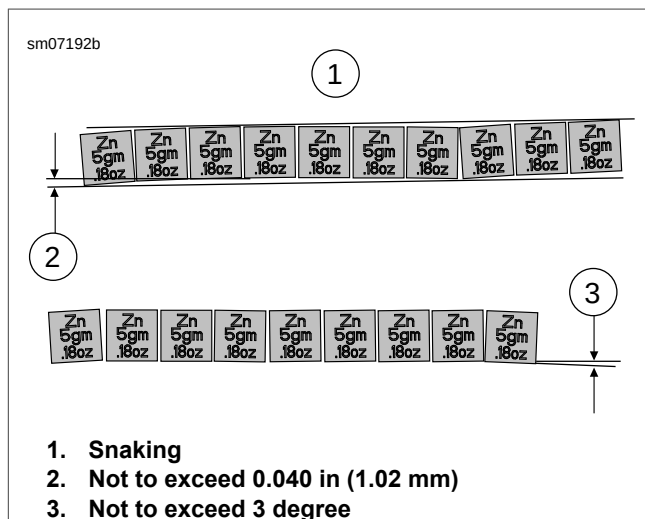

Figure 2-37. Weight Segment Alignment
See Figure 2-37. When installing wheel weights, consider cosmetics. Keep snaking (1) within 0.040 in (1.02 mm) (2) of straight. Also keep the angle alignment of individual segments (3) within 3 degrees.